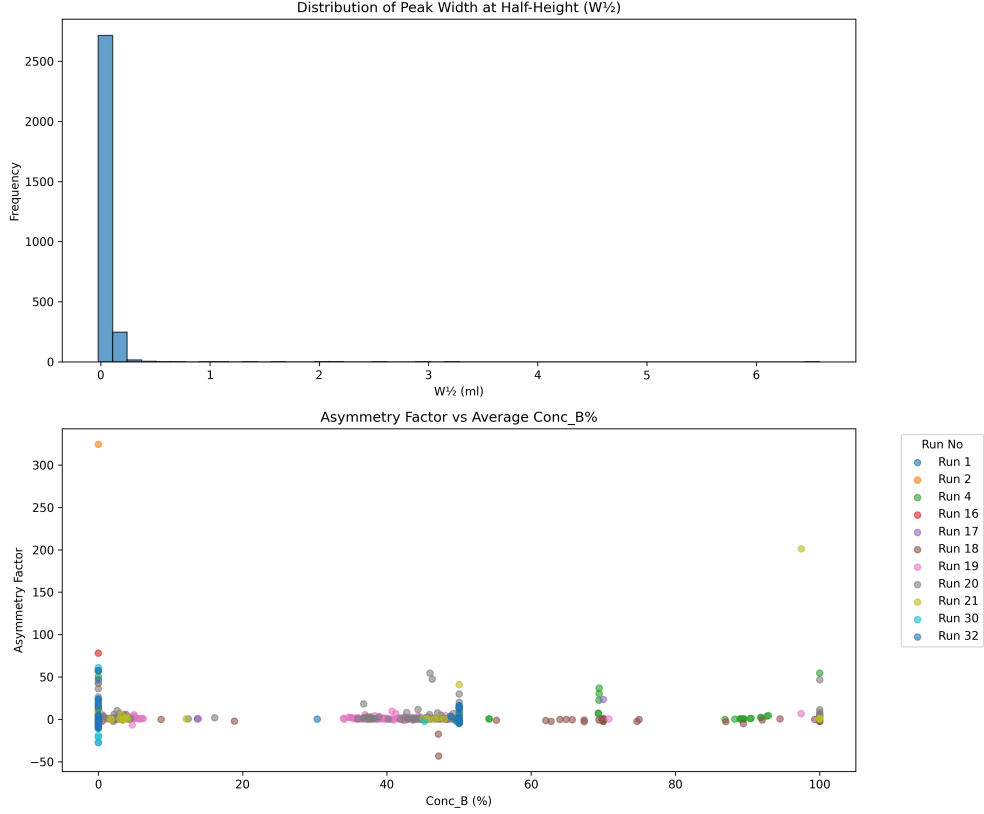

Figure 2: Figure 2: Histogram of Peak Width at Half-Height and scatter plot of Asymmetry Factor versus mobile phase gradient concentration.
In the assessment of injection consistency and peak symmetry, significant variability was observed. The analysis flagged 10 out of 11 runs for manual review due to a Coefficient of Variation (CV) in injection volume exceeding 0.2. This high variance contradicts the assumption that mean values could be safely used for imputation without further investigation. Regarding peak morphology, Figure 2 presents the distribution of Peak Width at Half-Height ($W_{1/2}$) and the relationship between asymmetry and the mobile phase gradient ('Conc.B-%'). The correlation analysis revealed negligible relationships between peak width/asymmetry and gradient concentration, with Pearson coefficients of -0.028 and 0.037, respectively. This suggests that peak distortion is not driven by the gradient profile. However, the near-zero $W_{1/2}$ values observed for most runs and the high count of 'Low Confidence' peaks indicate potential issues with peak detection thresholds or sampling uniformity rather than genuine chromatographic behavior. Consequently, while the volume